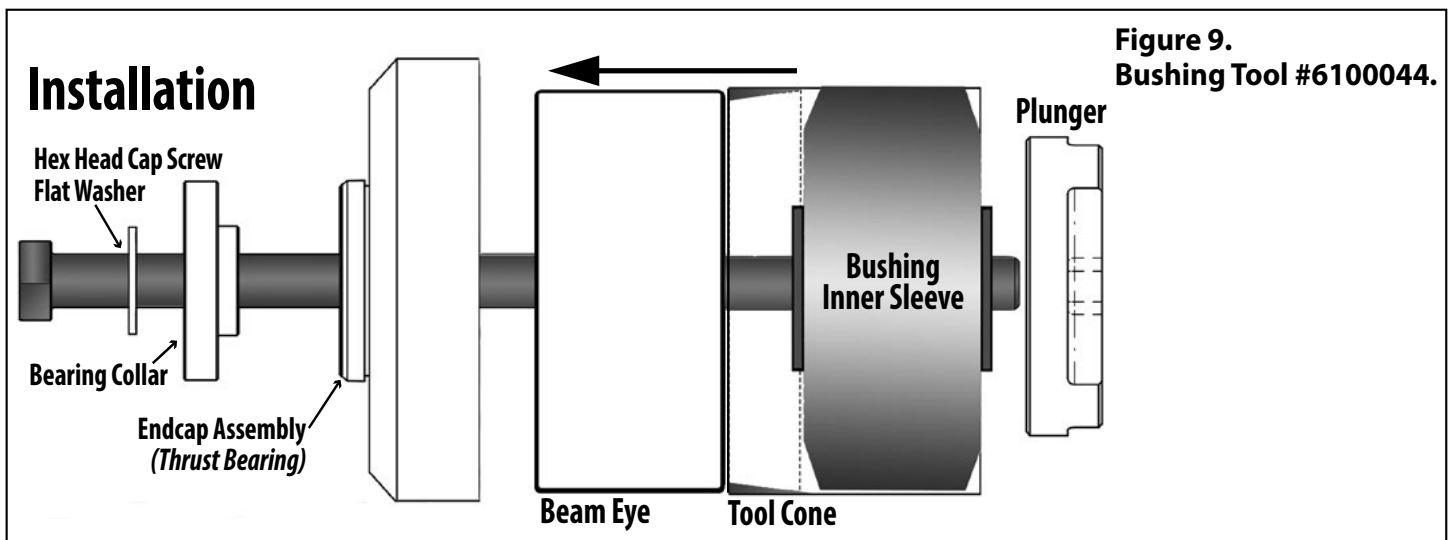

Figure 9.
2. Liberally apply P80[®] lubricant or a soap solution to the inside of the beam eye, the outside of the new bushing and inside the tool cone. Insert replacement bushing into the larger opening of the tool cone (Figure 9).